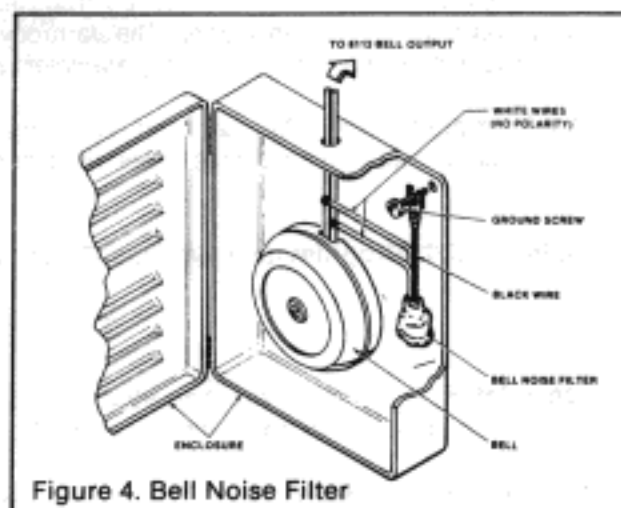

Figure 4. Bell Noise Filter
- 6.2 Bell Noise Filter** - An Omegalarm D8123 Bell Noise Filter must be installed when connecting impulse bells (motor or solenoid types) to a D8112 alarm power output terminal. The bell noise filter suppresses noise impulses on the wiring before this noise can return to the panel. The bell noise filter is installed at each bell, NOT at the panel. See Figure 4 for installation.